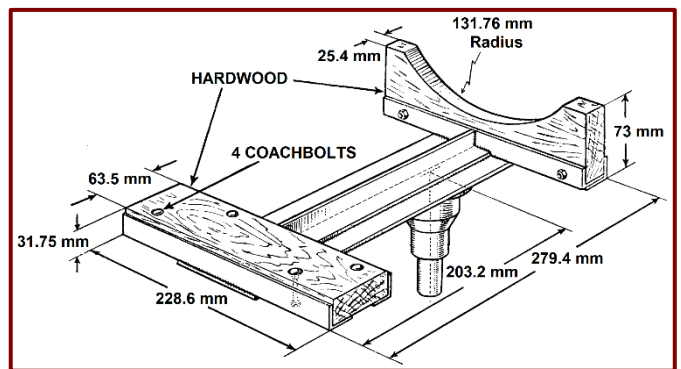

Figure 20. Engine Cradle.
26. The only remaining items now are the three engine mountings. The weight of the engine should now be taken by using a workshop jack and engine cradle (Figure 20). Position the Cradle so that the flywheel ring gear teeth rest on the wooden surface of the rear Cradle arm, and the sump base on the front wooden arm.
Metric Conversions For Figures 20 And 21